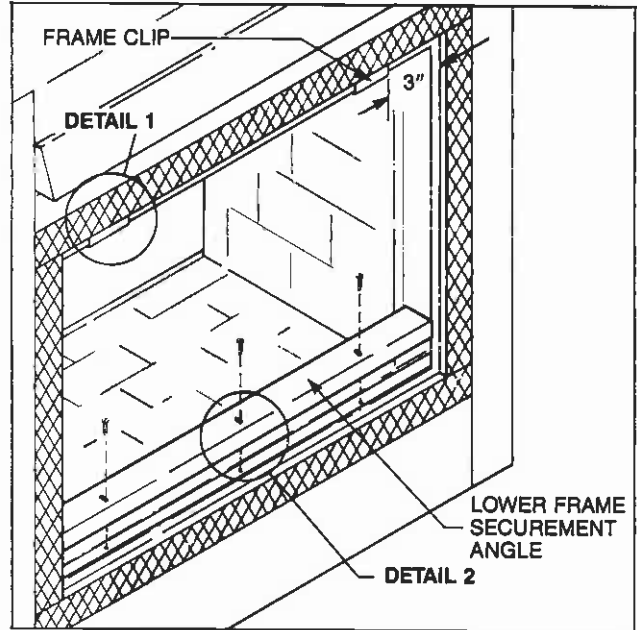

Fig. 4. Installing door frame to fireplace.
3. You are now ready to mount the frame assembly. Position the frame in the fireplace opening so the small mesh is at the bottom of the frame. Position the frame so that the top spring brackets and upper door pivots are at top of opening. The frame should be pushed inward until the frame rests against the filler angles and screen rail. (See Fig. 4).
4. Now install the two (2) upper frame clips to lock the top of the door frame to the screen rail front. The clips can be installed with a rubber hammer or wooden mallet to force the clips into place. These clips should be located approximately three (3) inches from the edge of the door frame. (See Fig. 4).
5. The lower frame securement angle should be placed in the lower door frame track and secured with the three (3) screws removed in Step 1. (See Fig. 4). The frame should be tight against the fireplace and the three (3) screws tightened at this time.